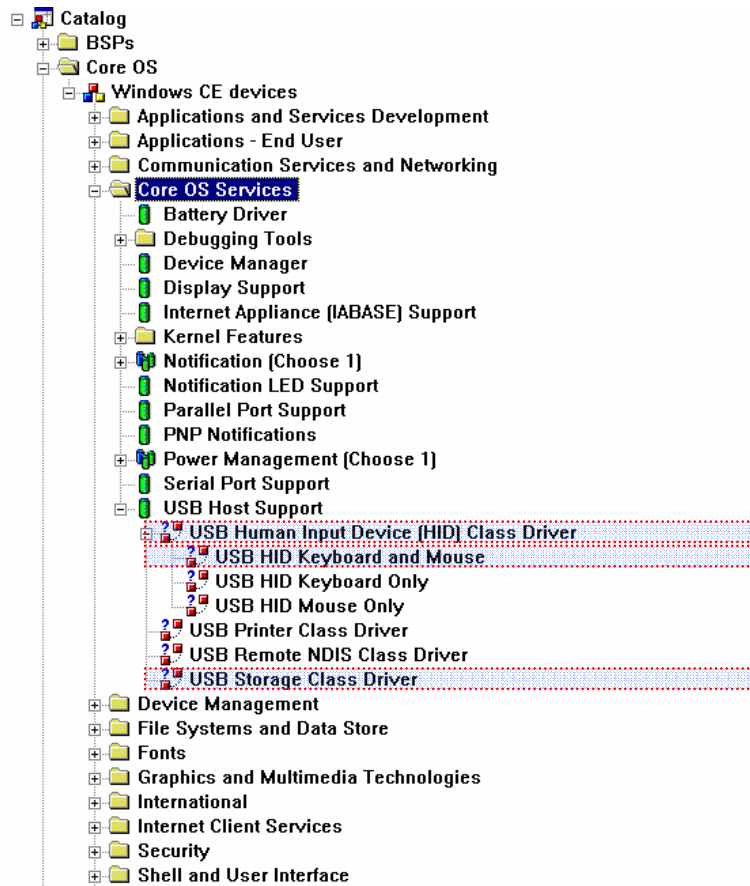

Figure 4-4 Some of which you should add to OS Design
6. The **Platform Settings** window appears on your screen. Select **Locale** tab and click **Clear All** button. It clears all the language settings in your platform. Now select **English (United States)** as shown in figure 4-4.